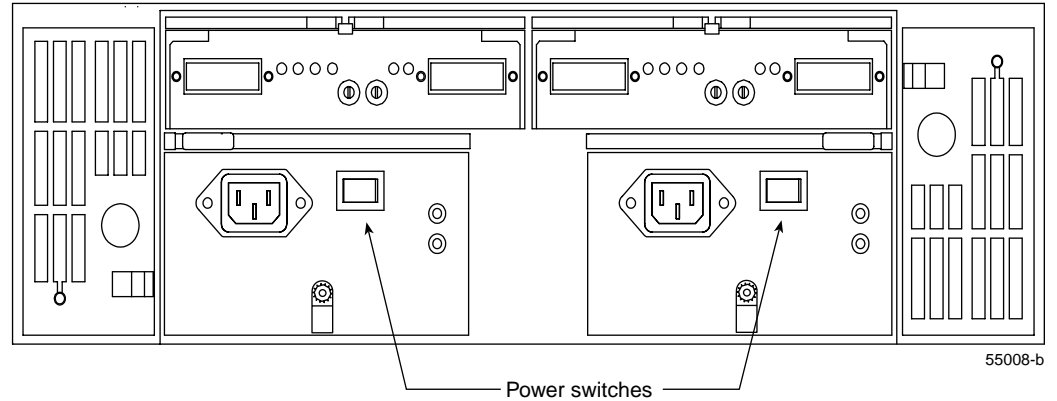

Figure 8-17 Power Switches on the Drive Enclosure
9. Turn on both power switches on the rear of each drive enclosure (see Figure 8-17).